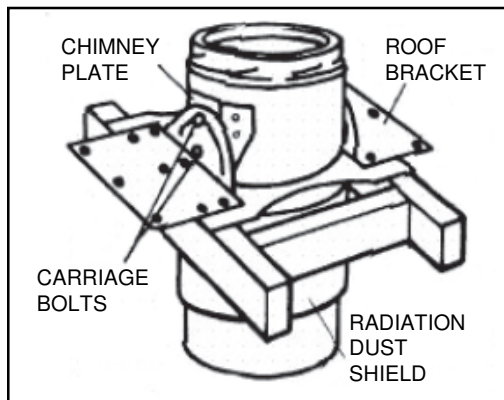
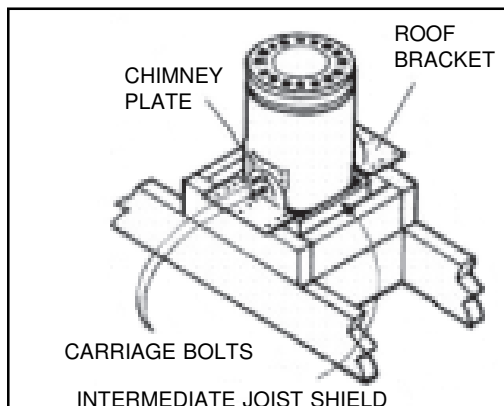

FIGURE 21a
FIGURE 21b
The CF Roof Support can be used with either the SS chimney (see Figure 21a) or the CF chimney (see Figure 21b). The CF Roof Support is located on top of the joists and is installed after an Intermediate Joist Shield is installed (when required). Install two (2) carriage bolts per chimney plate in the square holes. Bend the plates to suit the curve of the chimney. Using the plate as a template drill 3/32" holes in the casing. Attach the plates using the stainless sheet metal screws provided. Attach the Roof Brackets to the chimney plates using the installed carriage bolts. Set the assembly into position and adjust and tighten the carriage bolts. Screw the plate to the joist using the (6) large wood screws per bracket. The Resupports can hold up to 9m (30') of chimney, 6m (20') of which can be suspended.